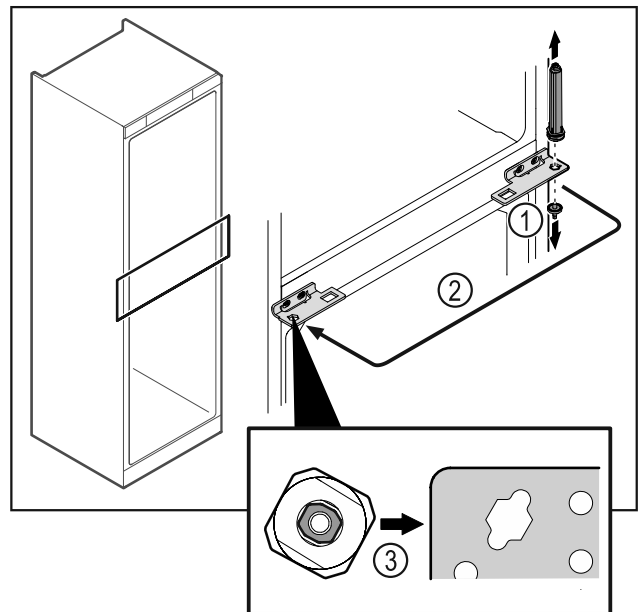

Fig. 47
- ▶ Unscrew the hinge pin Fig. 47 (1).
- ▶ Move the door closing system Fig. 47 (2).
- ▶ Make sure the pin chamfer Fig. 47 (3) faces the round hole when you put it in.